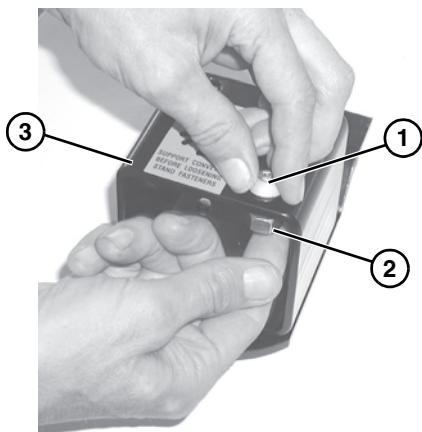

Figure 9
11. Install two button head screws (**Figure 9, item 1**) and hex nuts (**Figure 9, item 2**) on leg support (**Figure 9, item 3**). Do not tighten screws.